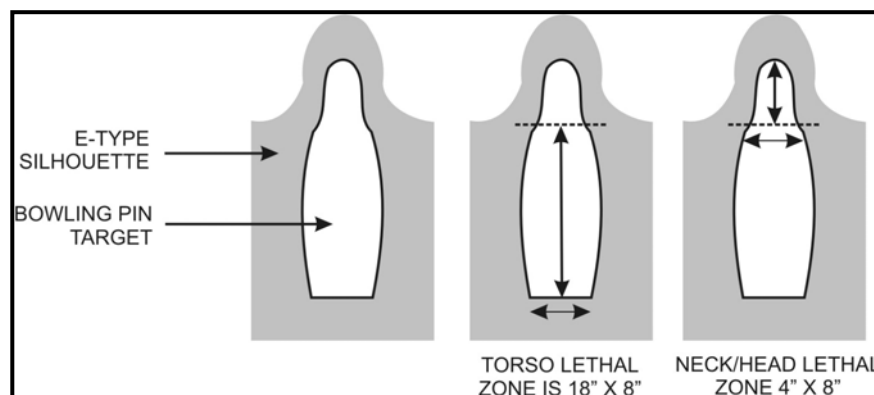

Figure 7-38. Dimensions and placement of bowling pin targets.
a. **Reflexive Firing Targets.** Targets can be locally purchased (FBI style) or manufactured by the unit (bowling pin targets). E-type silhouettes may be painted as shown in Figure 7-38.